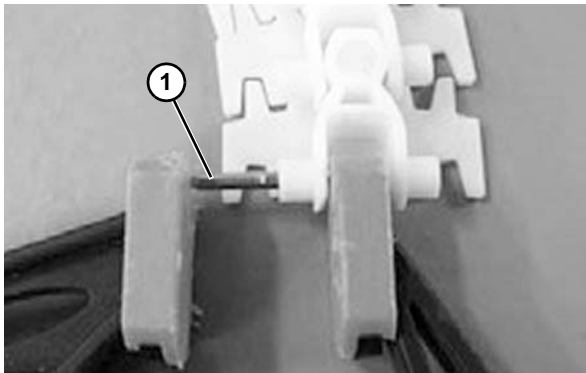

Figure 47
2. Insert the steel pin (**Figure 47, item 1**) halfway, using a pair of pliers. Always use new steel pins and plastic pivots when joining chain ends.